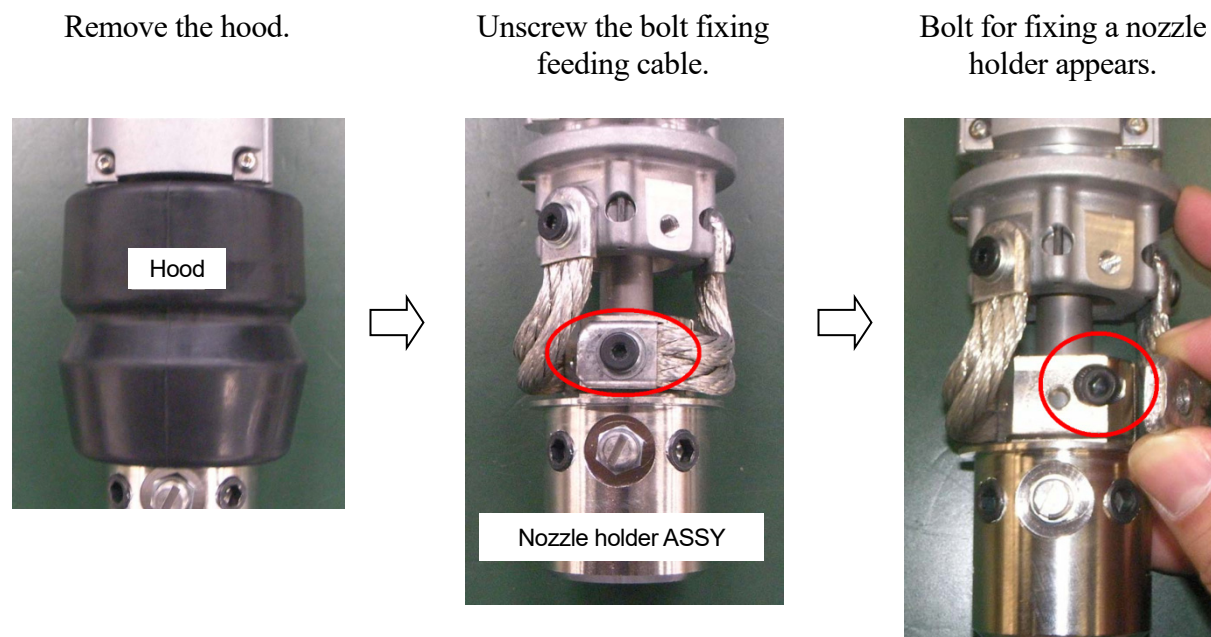

Fig 2.6 Adjustment method of torch (right/left direction)
1. If the torch end deviates in vertical direction, loosen 2 hexagon socket head cap screws ① (M8×20) that fix the insulating bracket onto the L bracket. Correct the position, moving the torch end in the direction that the torch end deviates (upward or downward), and then fix it firmly by tightening the hexagon socket head cap screws.
2. If the torch end deviates in front-back direction, loosen 2 hexagon socket head cap screws ② that fix the mount onto the L bracket (M8×25). Correct the position, moving the torch end in the direction in which the torch end deviates (backward or forward), and then fix it firmly by tightening the hexagon socket head cap screws.
3. If the torch end deviates in horizontal direction, adjust in the following procedure referring to the “Fig. 2.6 Adjustment method of torch (right/left direction)”.